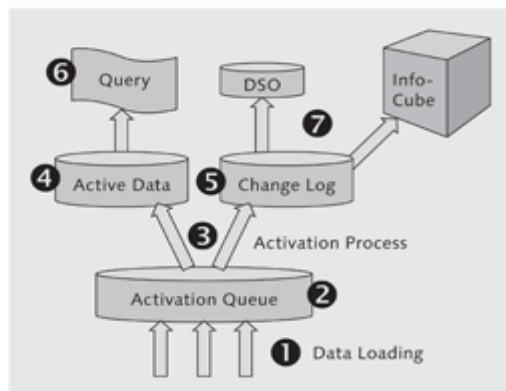

Figure 4.3 Architecture of a Standard DSO
As we've mentioned, the standard DSO consists of three tables: the Activation Queue, Active Data, and Change Log tables (Figure 4.3). These are discussed in more detail next.
The Activation Queue table is only relevant for standard DSOs. When data is loaded into a standard DSO (1 in Figure 4.3), it's first stored in this table. The key fields of this table are technical and consist of the request SID (*surrogate ID*), the package ID (data package number), and the record number. The *request SID* is a number given to each new data loading, and each request SID is divided into a number of data sets known as the *package ID*. Individual records in each package ID are assigned a number, starting from 1, and this is the *record number*. The data available in the Activation Queue table is neither available for reporting nor for sending to another data target because data in the Activation Queue table, by definition, hasn't yet been activated. The Activation Queue table is shown as 2 of Figure 4.3.
The data from the Active Data table is generally used for reporting, as shown in ❹ of Figure 4.3. In some cases, this table also supplies the full data upload to another data target. The key field chosen while designing a DSO is the key of this table. This key is also known as the *semantic key* of the DSO. The activation process (only applicable to standard DSOs) moves the data from the Activation Queue table to the Active Data table and the Change Log table (❸). The Active Data table is shown in ❹. In some cases, an Active Data table also supplies a full upload.
The Change Log table is related to the other two tables in such a way that the activation process moves data from the Activation Queue table to the Change Log table (❺ of Figure 4.3) and Active Data table (❹). When data from a standard DSO is updated to other data targets, the delta load is supplied from the Change Log table (❷).